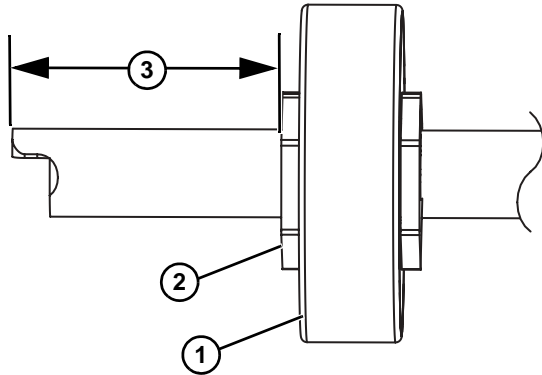

Figure 79
When assembling pucks (Figure 79, item 1) with retainer plates (Figure 79, item 2), make certain that there is a minimum of 38 mm (1.5") of clearance (Figure 79, item 3) on each end.